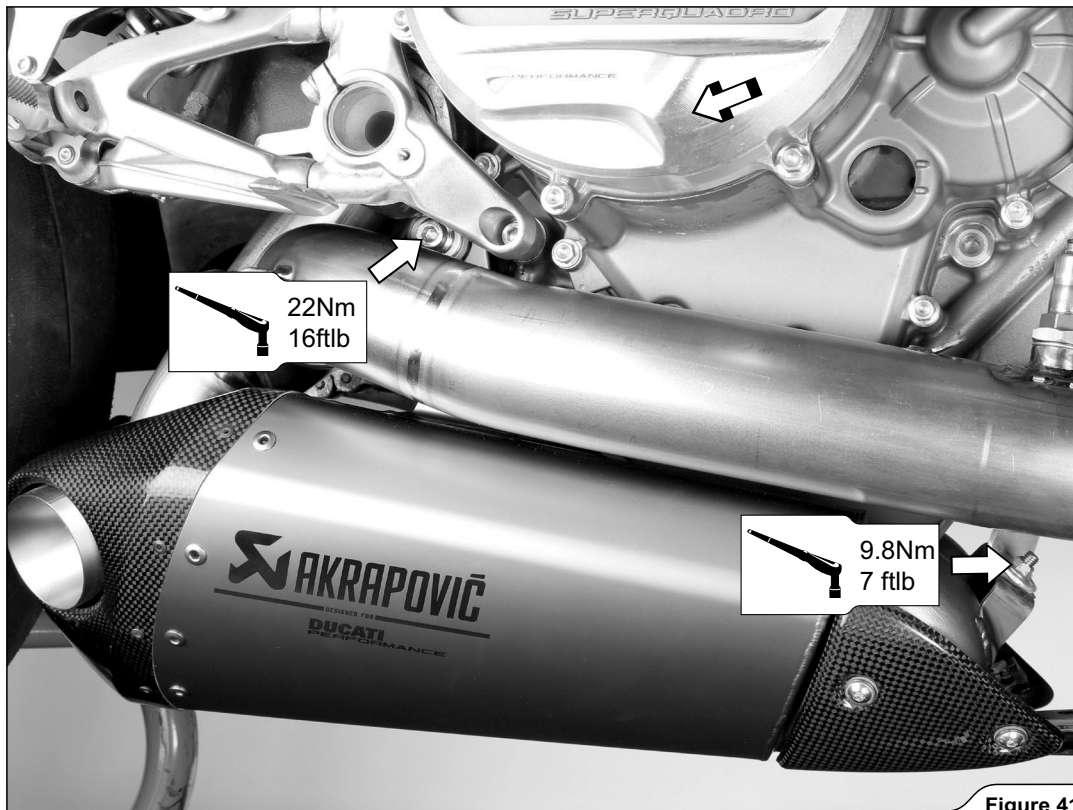

Figure 41
11. Align the mufflers and pipes in respect to the motorcycle and tighten the mufflers onto the motorcycle, using stock bolts and nuts (Figure 41).